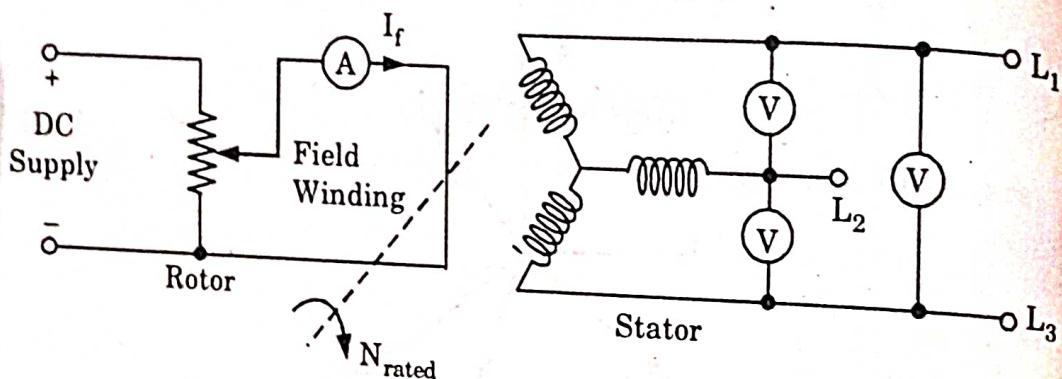

Fig. 1.13.1. Open-circuit test on an alternator.
1. The alternator is run at rated synchronous speed and the load terminals kept open as shown in Fig. 1.13.1. That is, all the loads are disconnected. The field current is set to zero.